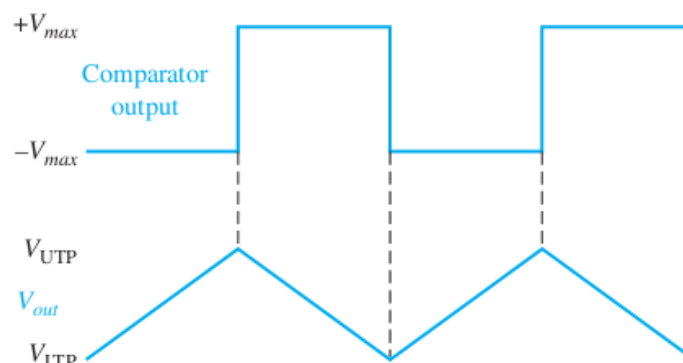

Figure 26 Waveforms for the circuit in Figure 25.
- o This action is illustrated in Figure 26.